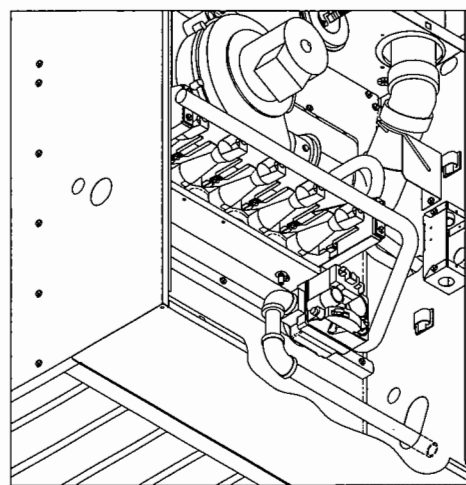

Fig. 7B — Gas inlet from the R.H. side
- Straight pipe to reach exterior of furnace. See Fig. 7B.